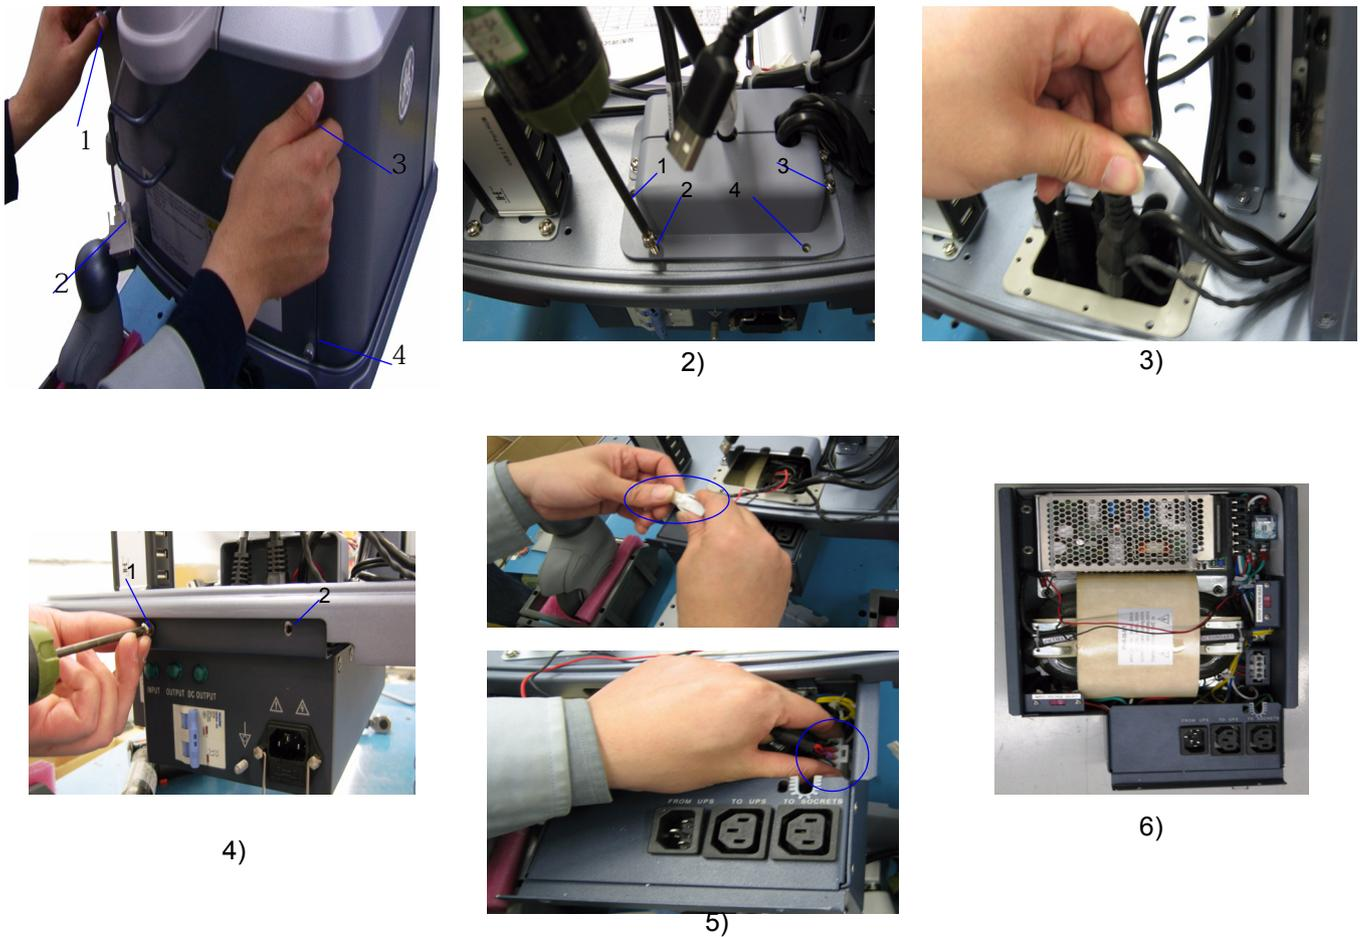

Figure 8-21 Transformer Assy Disassembly
- 1.) Loose 4 screws of the rear panel and remove it, refer to Figure 8-21 on page 38 .
- 2.) Unscrew 4 screws [M4X14] and remove the cover, refer to Figure 8-21 on page 38 .
- 3.) Disconnect all the cables, refer to Figure 8-21 on page 38 .
- 4.) Unscrew 2 screws [M4X8] and pull out the transformer assy, refer to Figure 8-21 on page 38 .
- 5.) Disconnect all the connectors, refer to Figure 8-21 on page 38 .
- 6.) Remove the transformer assy, refer to Figure 8-21 on page 38 .
- 9.) Loose 4 screws of the rear panel and remove it, refer to Figure 8-21 on page 38 .
- 10.)Unscrew 4 screws [M4X14] and remove the transformer protective cover, refer to Figure 8-21 on page 38 .
- 11.)Unscrew 2 screws [M4X8] and pull out the transformer assy, refer to Figure 8-21 on page 38 .
- 12.)Disconnect all the cables which connect in the transformer, refer to Figure 8-21 on page 38 .